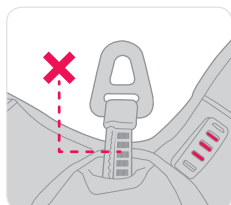

Figure 4
- Ensure that the descent line is not paid out of the device, this would indicate that a descent has occurred (Figure 4). If descent line is paid out the Latchways PRD shall be removed from service and advise sought from Latchways or authorised agent.